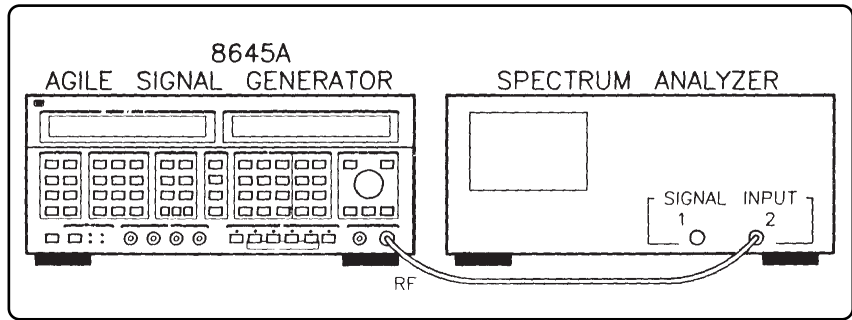

Figure 25. Equipment Setup for Internal Single Procedure #1.
1. Connect the 8645A to the Spectrum Analyzer as shown in Figure 25. Turn on the equipment and make the following adjustments to the Spectrum Analyzer: